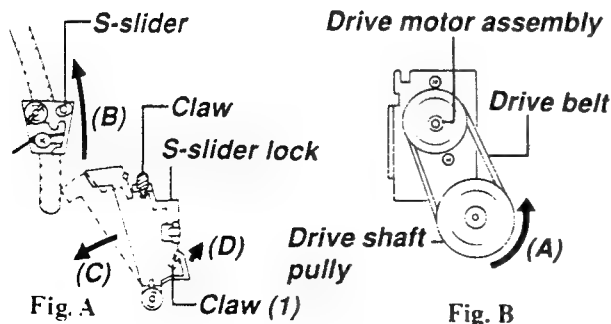

Fig. 4-10-2
2. Remove the tension regulator assembly. (Refer to item "1-4-26. (1) Tension Regulator Assembly Replacement".)
3. Turn the drive shaft pulley in the direction of the arrow(A) and move the S-slider from the S-slider lock in the direction of the arrow (B) (Refer to Fig. 4-10-2 A and B.)
4. Remove the S-slider lock by turning it in the direction of the arrow (C) and moving the claw (1) in the direction of the arrow (D).